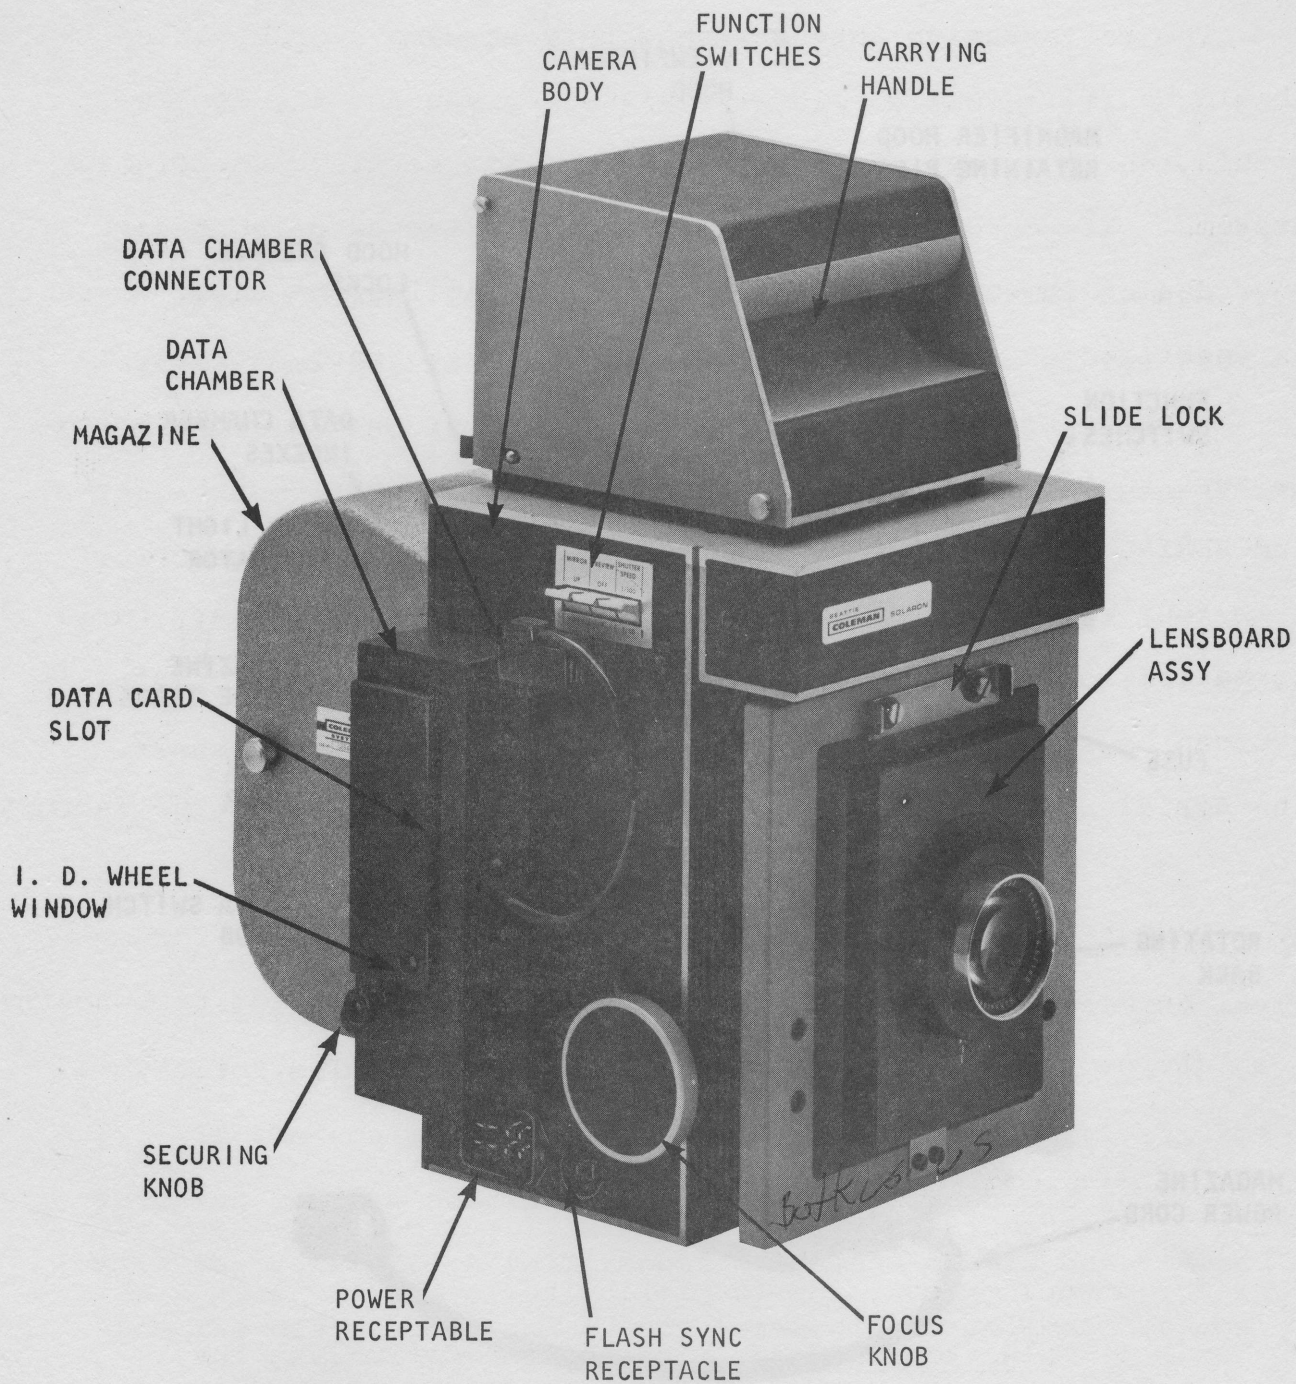

FIGURE 1
(Refer to Figures 1, 2 & 3 for nomenclature of the system.)
be selected by positioning the Shutter Speed Switch, located on the side of the camera body, to the desired speed. (See Figure 1)
Refer to Figures 1 & 2 for nomenclature of the camera system.
1. Positioning - (Figure 2) The data chamber must be positioned to match the film format being used. Loosen the securing knob (Figure 1) and slide the data chamber to the position desired by lining up the index arrow on the data chamber with the colored index mark on the camera body corresponding to the magazine format to be used. (See Figure 2) The index marks are for vertical positioning only; horizontal position formats can be located in the following manner: Using a viewing slide, mark the format areas in the correct position on the viewing slide. Insert the viewing slide on the camera. With the shutter open, move the data chamber until the data window is in the correct position of the format area. Mark this position on the index mark.